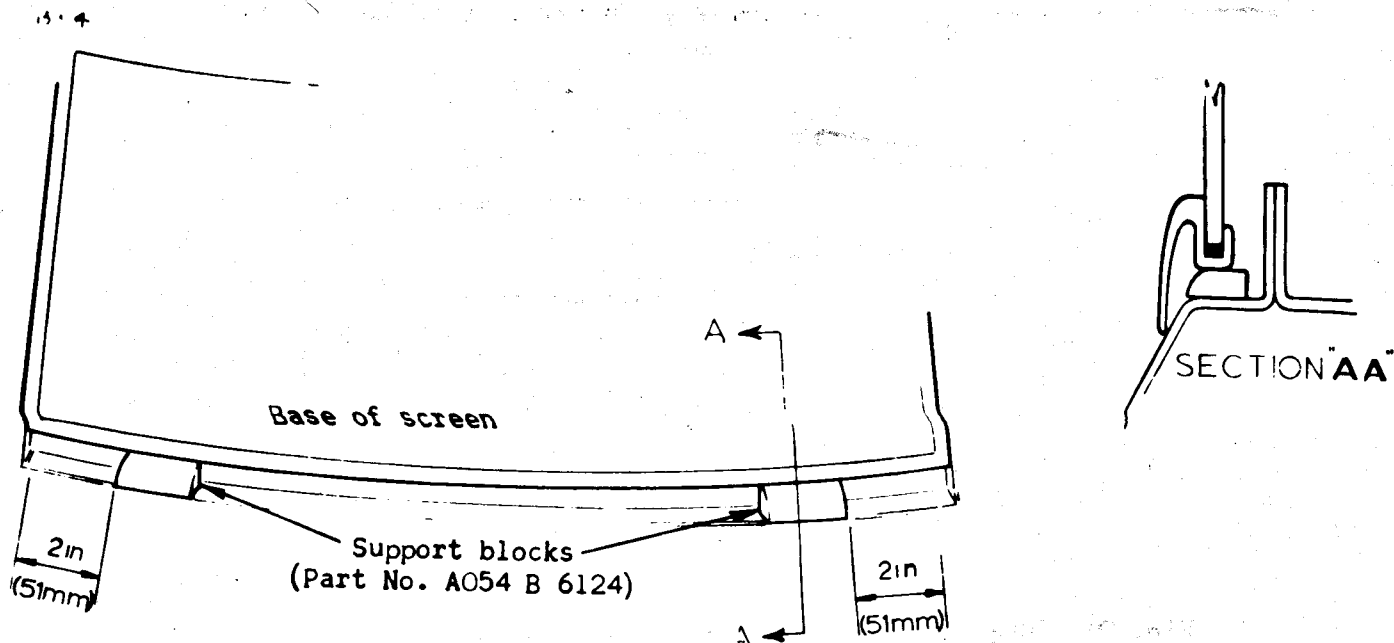

Fig.20 - Location of windscreen support blocks
2. Place the two support blocks in position at the base of the screen (see Fig.20) using pieces of narrow butyl strip to locate them.